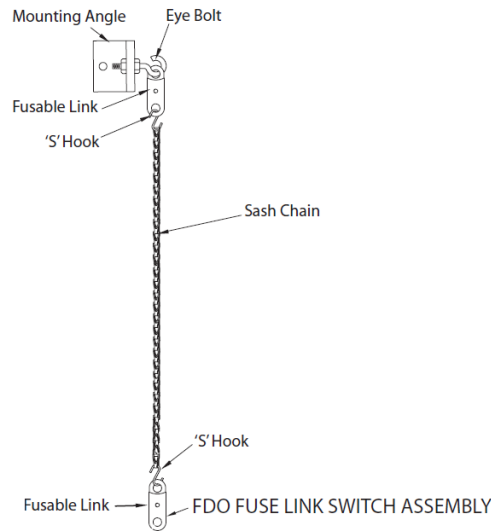

Figure 43
- Install release assembly, as shown in Figures 43 and 44 as required.